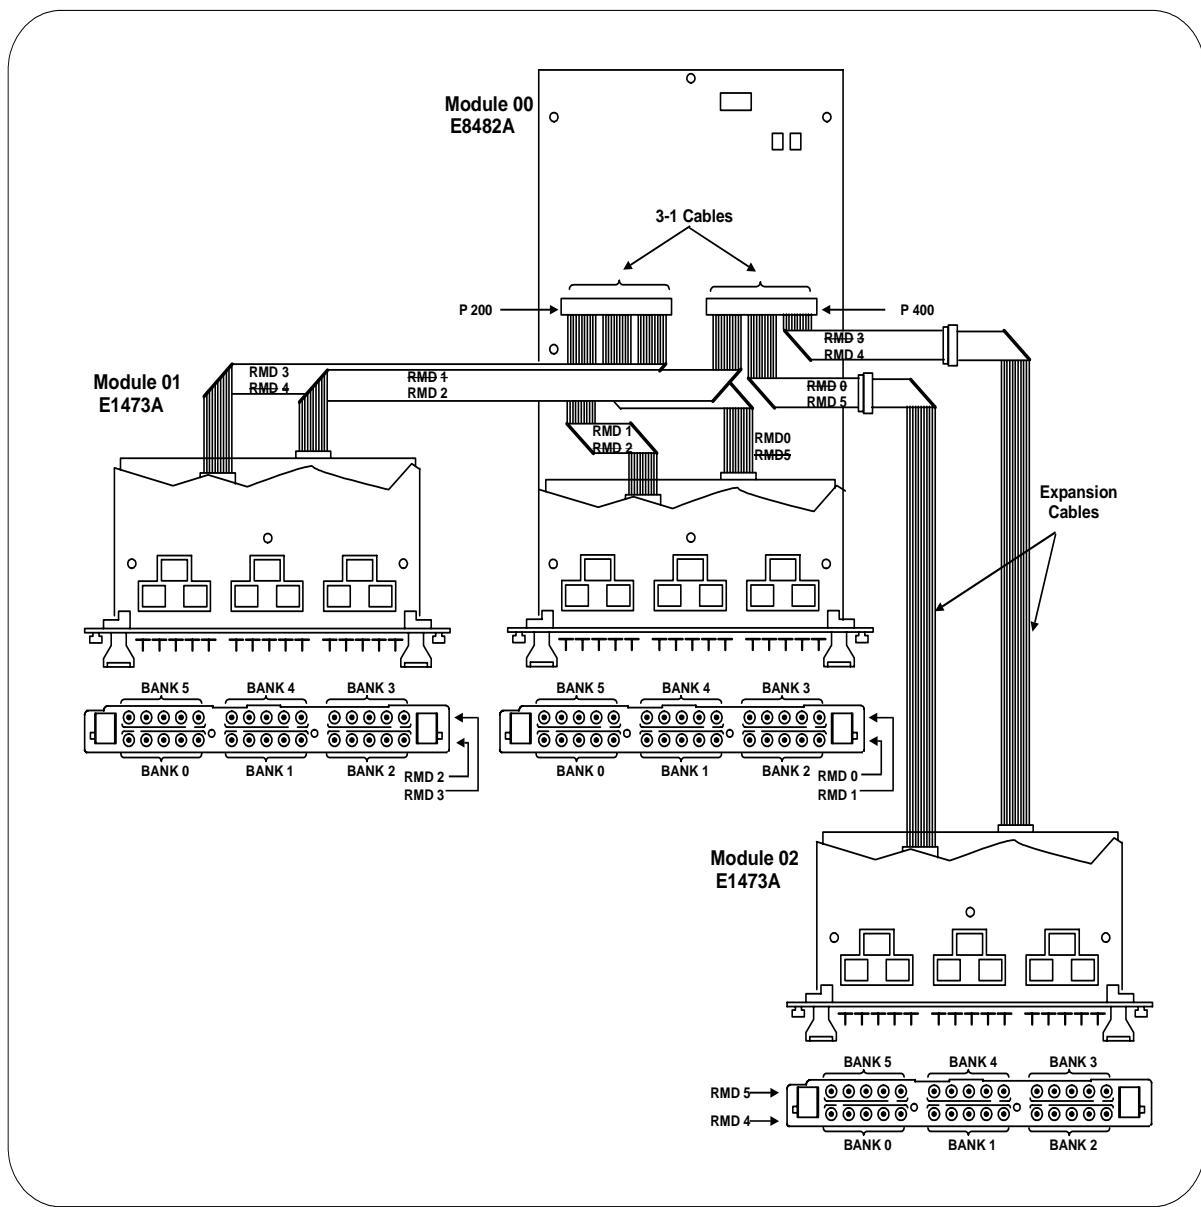

Figure 2-2. Expander Module Connection
Use Figure 2-2 and the procedure below to connect the Expander Modules:
3. Mark the 3-1 cables as shown in Figure 2-2 (cross-out unused RMD number).
5. If the Expander module is physically located (up to eight meters) away from the mainframe, you can daisy chain up to 10 extender cables (P/N E1473-80002) for each RMD connection (see Figure 2-2, module 02).